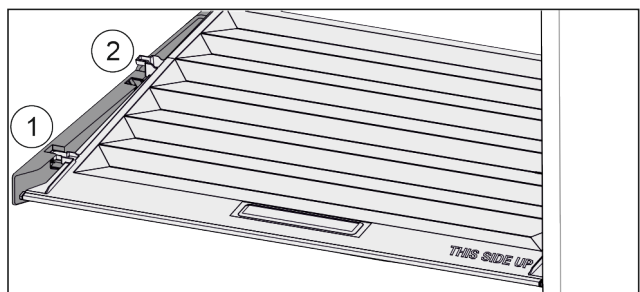

Fig. 142
- ▶ Pull the lid up at the front to the opening in the retaining parts Fig. 142 (1).
- ▶ Lift from the back and pull it up and out Fig. 142 (2).